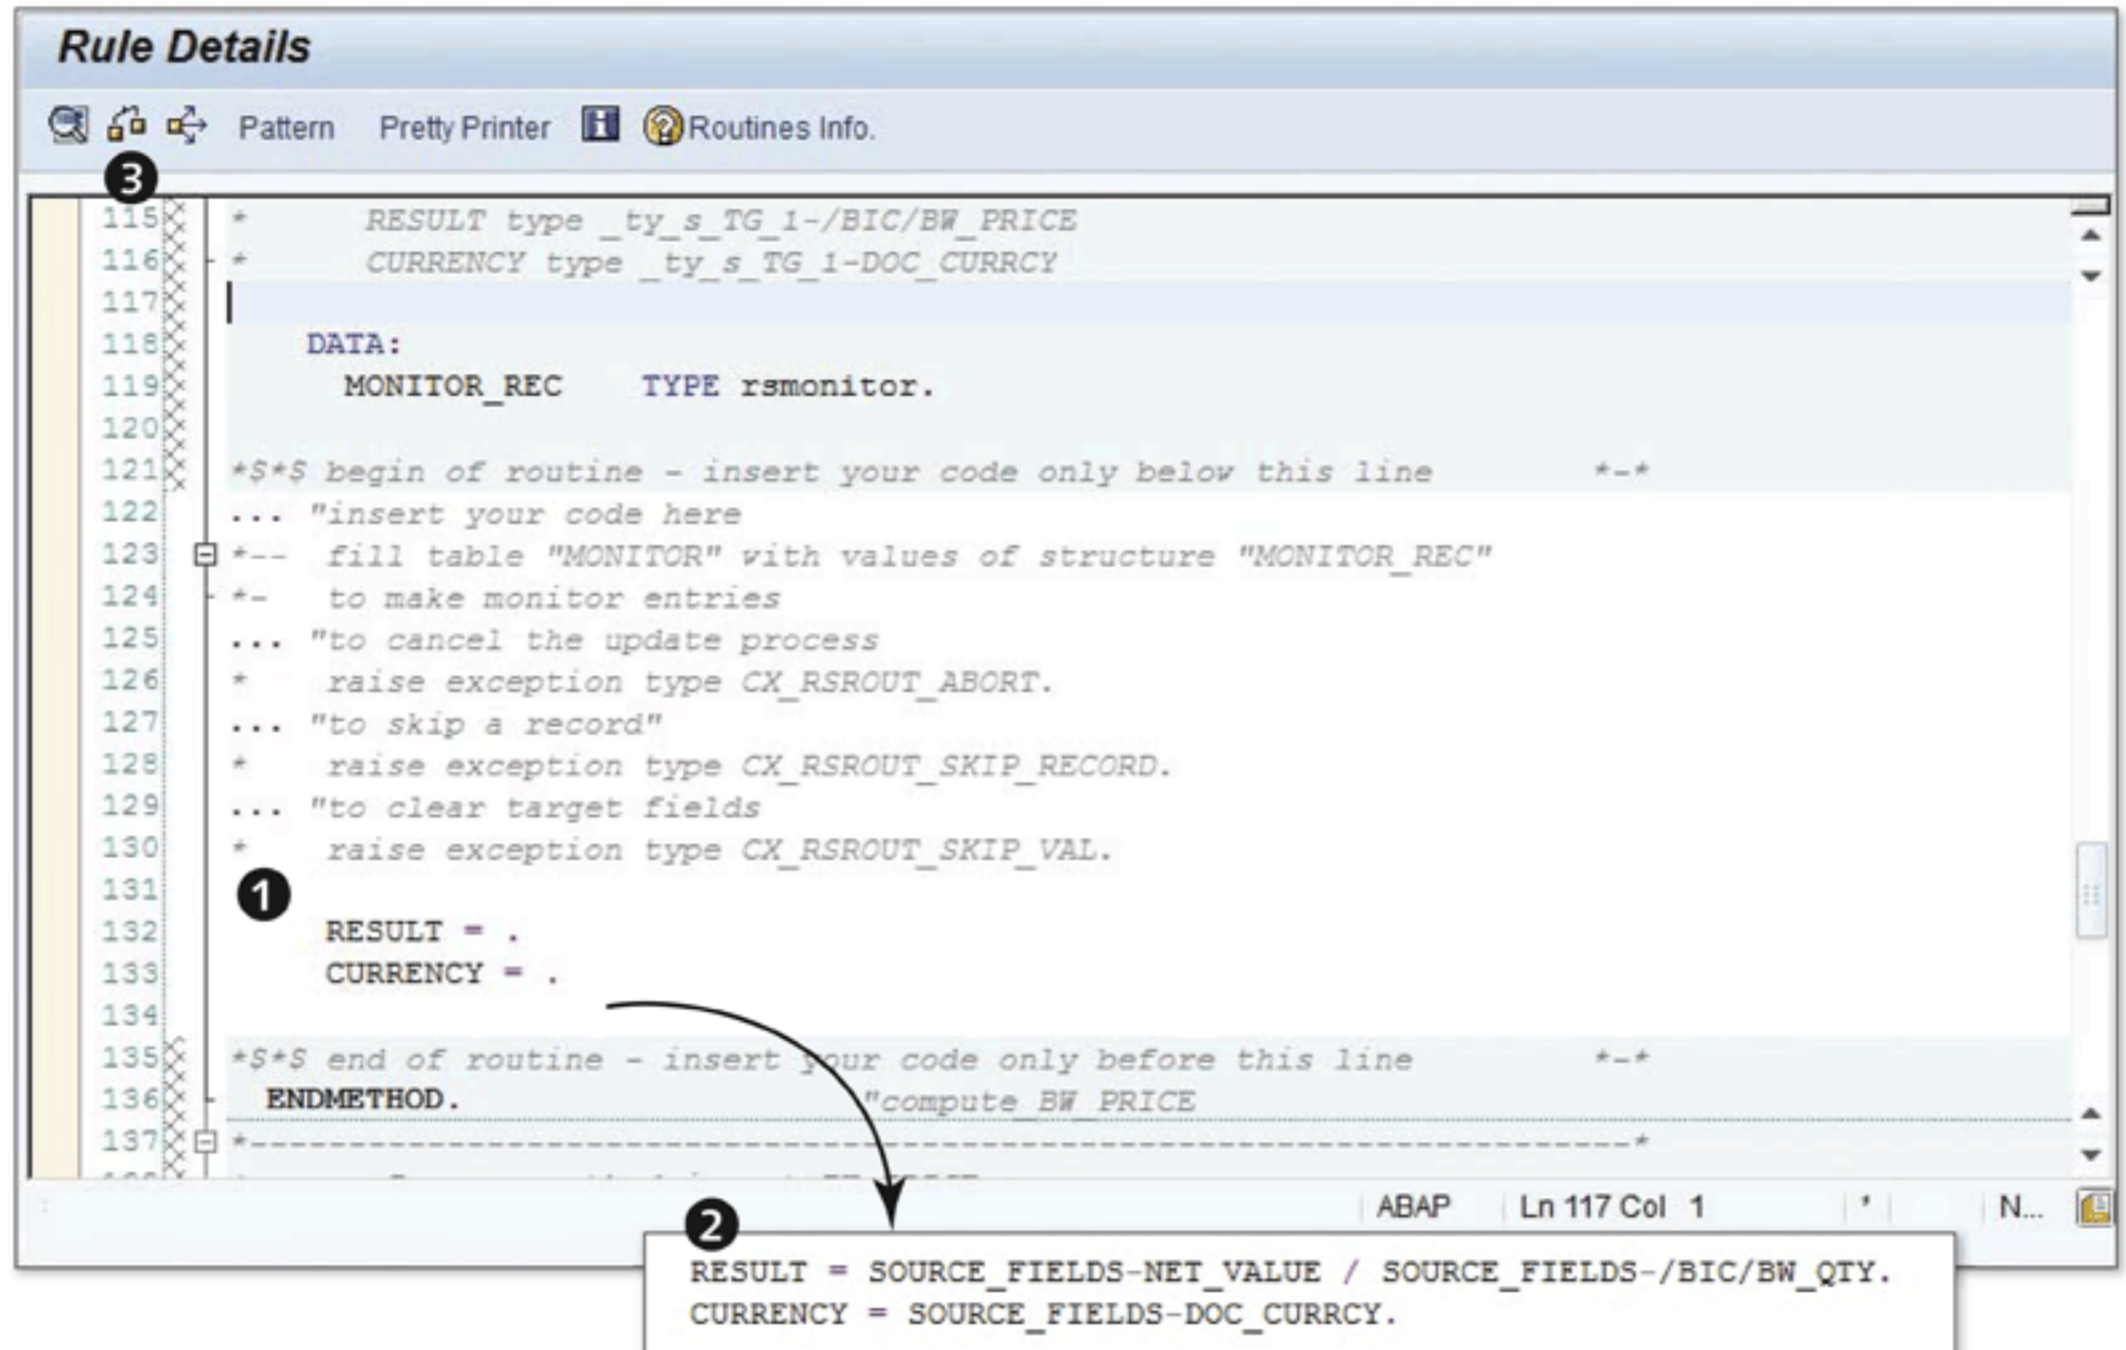

Figure 7.75 ABAP Routine
Click on the CHANGE icon (4) to invoke the ABAP editor (Figure 7.75). In the ABAP routine, we calculate the value of BW_QTY by using the following formula:
Replace the lines shown in 1 of Figure 7.75 with the lines shown in 2 of Figure 7.75. Check your ABAP routine using the CHECK icon (3 of Figure 7.75), and save the ABAP routine.